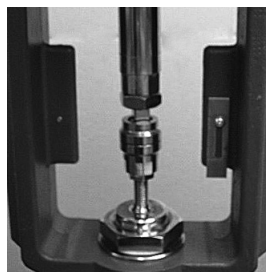

Fig. 21
- Unscrew the actuator connector until it just contacts the valve stem adaptor without opening the valve (Figure 21).